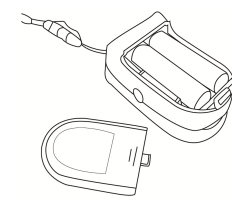

Figure 3 Batteries installation
- Refer to Figure 3 and insert two AAA size batteries properly in the right direction.